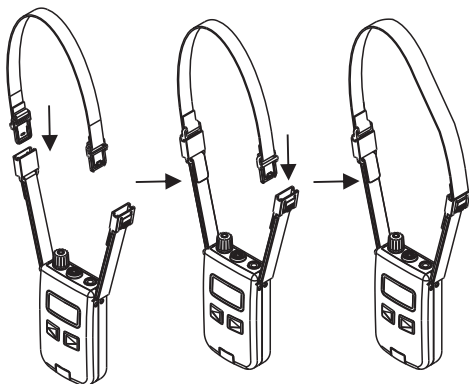

Fig. 14
1. Wearing Neck Lanyards, Fig. 14: